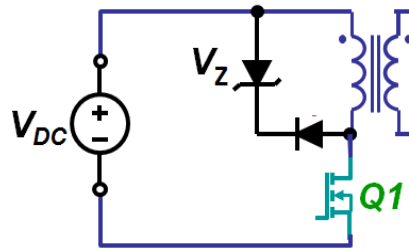

Figure Q15
8. If $V_{DC} = 150V$ and Q1 has a maximum voltage rating of 220V, what would be the appropriate breakdown voltage V_Z value of the Zener diode used in the following circuit shown in Figure Q15?